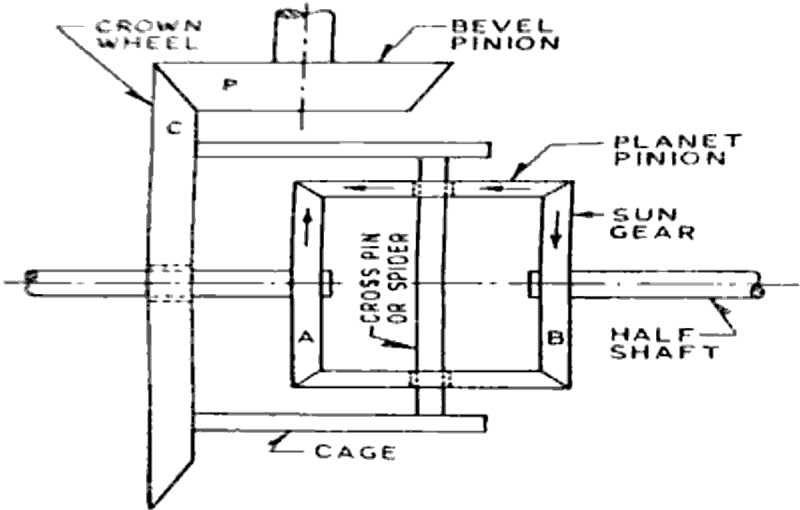

Fig. 1. Differential.
- (b) The differential shown in Figure 1 has a number of teeth on the bevel pinion and on the crown wheel as 10 and 50 respectively. (a) Calculate the rotational speed of the differential cage. (b) If the propeller shaft is rotating at 1000 r.p.m., what is the speed of the road wheel driven by gear A relative to the road wheels driven by gear B? **04**